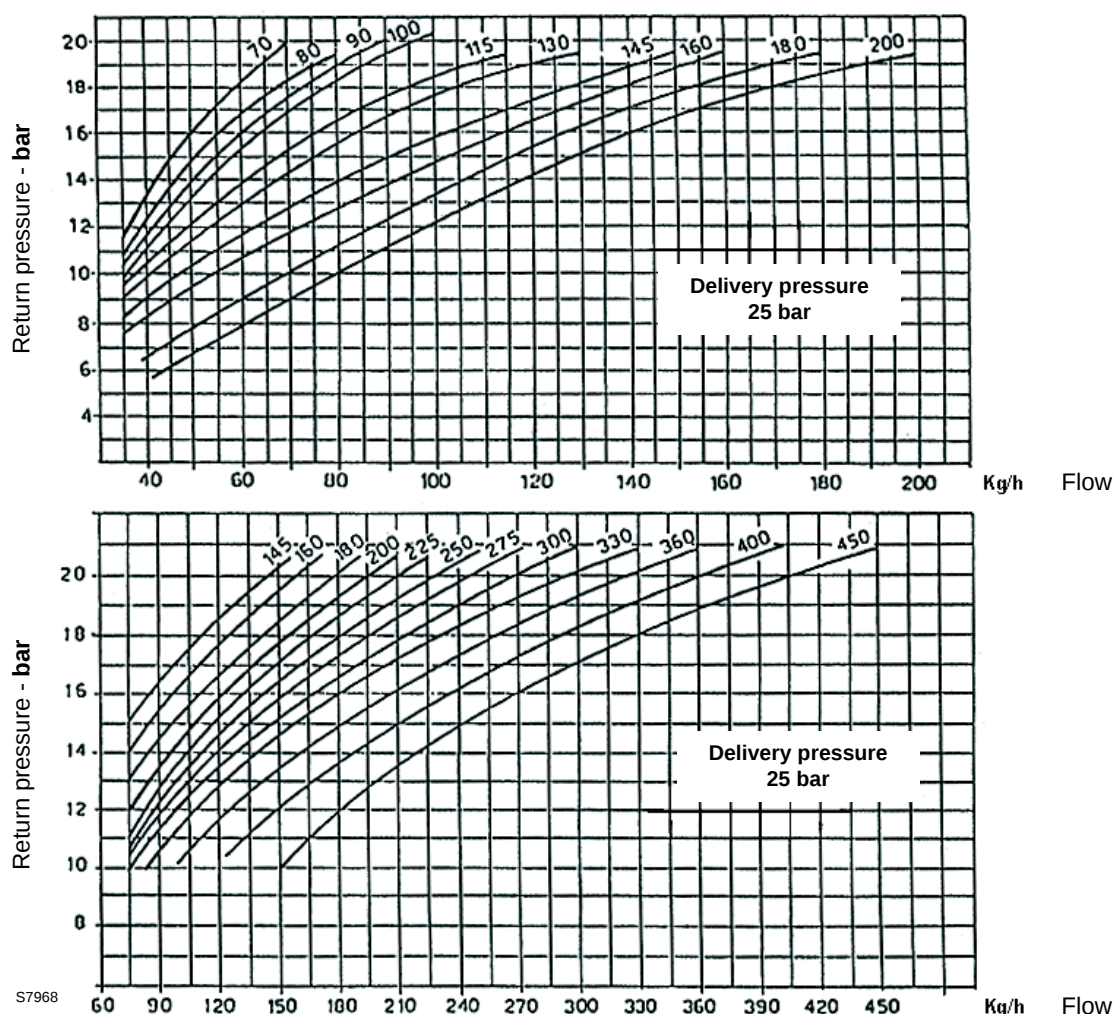

Fig. 10
- When the adjustment has been made, manually check that there is no Knocking between 20° and 130° and that maximum and minimum pressures match pre-selected values as indicated on the graph Fig. 10.